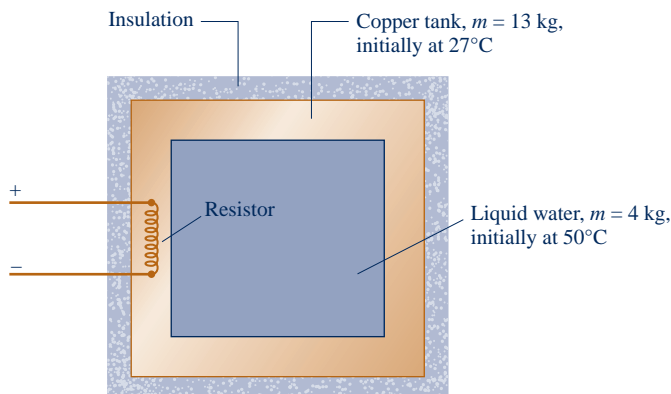

Fig. P3.89
3.89 As shown in Fig. P3.89, a system consists of a copper tank whose mass is 13 kg, 4 kg of liquid water, and an electrical resistor of negligible mass. The system is insulated on its outer surface. Initially, the temperature of the copper is 27°C and the temperature of the water is 50°C. The electrical resistor transfers 100 kJ of energy to the system. Eventually the system comes to equilibrium. Determine the final equilibrium temperature, in °C.